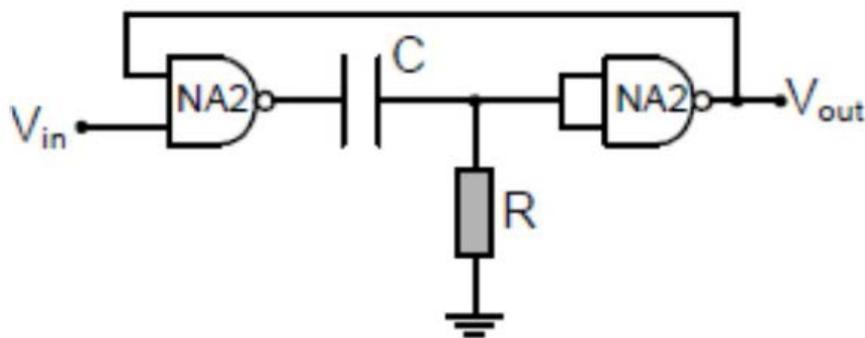

Fig. 1: The monostable multivibrator
- 2) Consider the monostable multivibrator circuit given in Fig. 1. What kind of input signal should be applied to the circuit for proper operation? Explain operation principle of this circuit in detail drawing required graphs. Moreover design a circuit doing the same operation using NAND gates, an inductor and a resistor. Calculate the value of the inductance which is needed to be used to observe same output characteristics with Fig. 1 in terms of resistor and capacitor values used in Fig. 1.